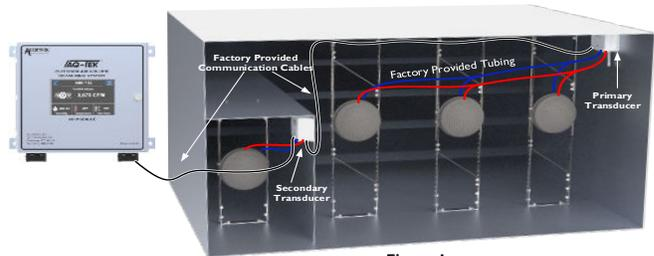

Figure 1
**1b. Install the IAQ-TEK Primary Transducer** inside the air intake plenum. See Figure 1 above and Figure 4 below.